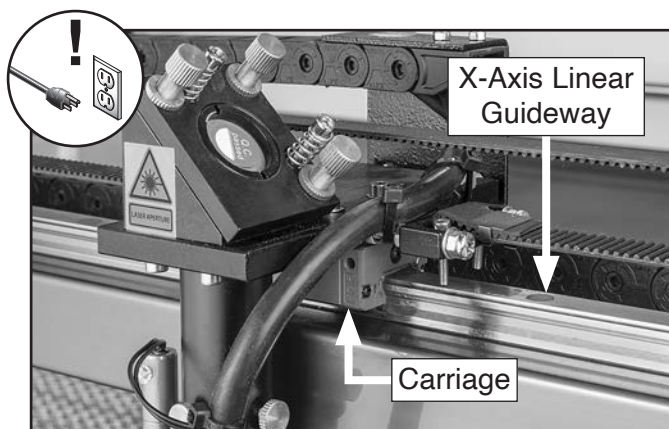

Figure 60. X-axis linear guideway and carriage.
4. Using clean shop rag lightly covered with sewing machine oil, wipe linear guideway and carriage until clean (see **Figure 60**).